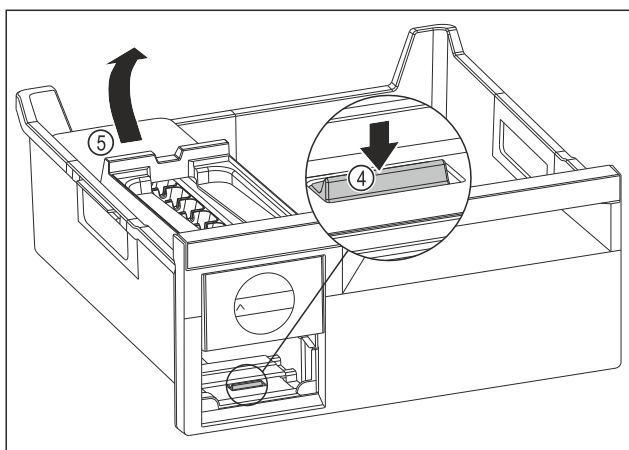

Fig. 74
- Removing the EasyTwist-Ice body: Use your finger to push the tab Fig. 74 (4) down and use your other hand to lift the EasyTwist-Ice body Fig. 74 (5) from behind at the same time.